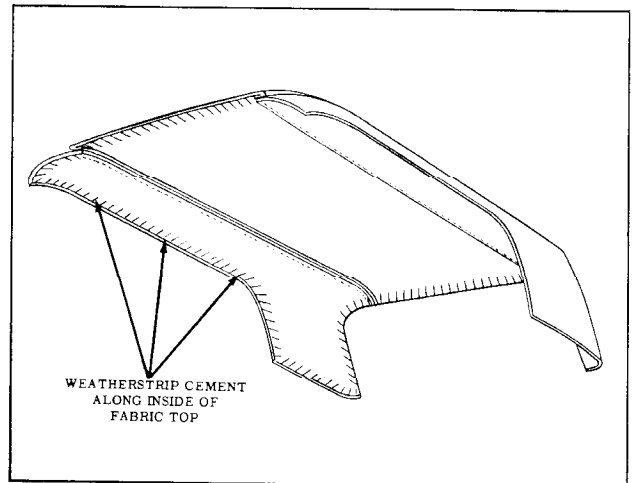

Fig. 15-58 Sealing Sport - Top Covering
3. Apply neoprene type non-staining weatherstrip cement to entire perimeter of fabric-cover and to corresponding areas on body. (Fig. 15-58)